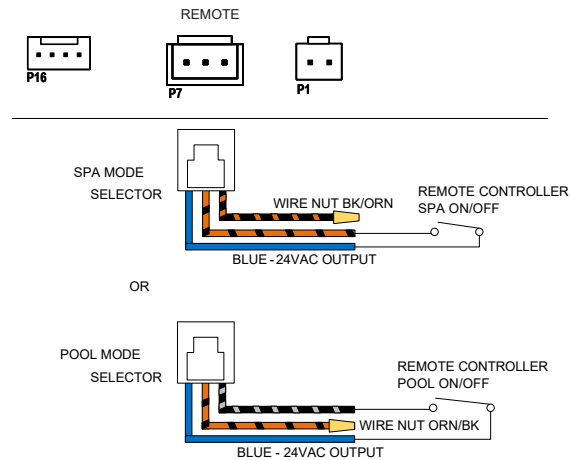

Figure 57. 2-Wire Remote Harness Installation
5. On the 3-wire remote harness, connect the BLUE wire to one side of the remote automation controller and connect the other side to either the ORANGE/BLACK wire for "SPA" operation or the BLACK/ORANGE wire for "POOL" operation. See Figure 57.
7. Install the "3-wire Remote Harness" to the "P7" connector and turn power "ON" to the heater. See Figure 57.